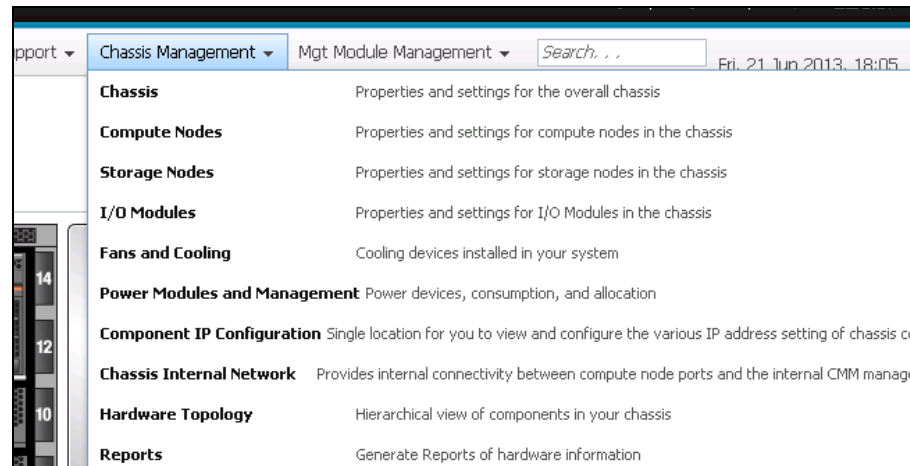

Figure 7-13 Chassis Management options
- ▶ Chassis Management, as shown in Figure 7-13